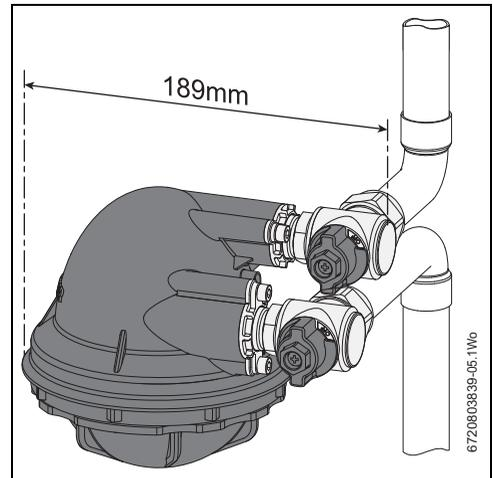

Fig. 6 Dimensions continued
- ▶ The two copper elbows are different, the shorter elbow is fitted on the pipe that returns to the boiler. Prepare the elbows supplied and solder onto the ends of the pipes as shown in figure 6.